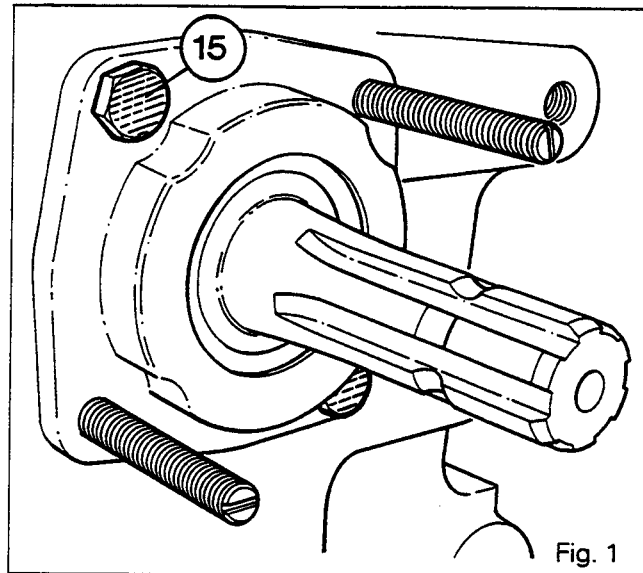

Fig. 1
2. Place the coupler (5) on the gear (7).
3. Remove two diametrically opposed screws (15) (Fig. 1).